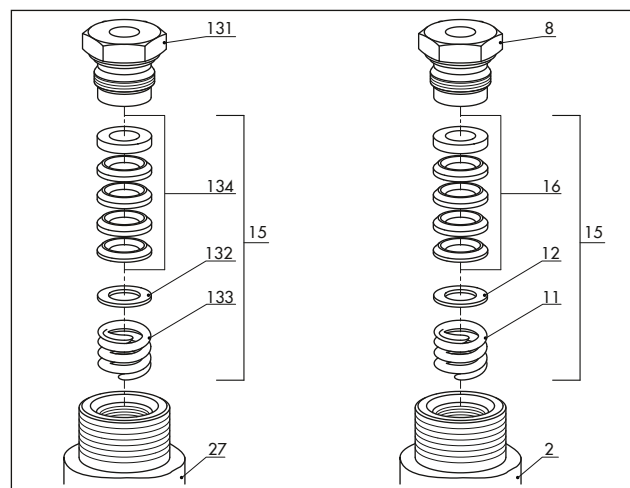

Fig. 22: Left: Packing for valves up to DN 50/NPS 2
1. Unscrew the threaded bushing (131).
2. Unscrew the body nuts (52) gradually in a criss-cross pattern and remove them.
3. Carefully lift the flange (34) and valve bonnet (27) off the valve body (20) over the plug stem (2).
6. Apply a suitable lubricant to all packing parts and the plug stem (2).
7. Carefully place the valve bonnet (27) and flange (34) over the plug stem (2) and the studs (51) onto the body (20). Make sure that the gasket (46) is properly seated in the body.
8. Carefully slide the packing parts over the plug stem into the packing chamber using a suitable tool. Observe the proper sequence (see Fig. 22).
9. Fasten down the flange (34) with the body nuts (52). Tighten the body nuts gradually in a criss-cross pattern. Observe tightening torques.
10. Apply a suitable lubricant to the thread of the threaded bushing (131). Screw in the threaded bushing and tighten it. Observe tightening torques.
1. Unscrew the threaded bushing (8).
2. Unscrew the body nuts (14) gradually in a criss-cross pattern and remove them.
3. Carefully lift the valve bonnet (2) off the valve body (1) over the plug stem (36).
6. Apply a suitable lubricant to all packing parts and the plug stem (36).
7. Carefully place the valve bonnet (2) over the plug stem (36) and the studs (13) onto the body (1). Make sure that the gasket (17) is properly seated in the body.
9. Fasten the valve bonnet (2) with body nuts (14). Tighten the body nuts gradually in a crisscross pattern. Observe tightening torques.
10. Apply a suitable lubricant to the thread of the threaded bushing (8). Screw in the threaded bushing and tighten it. Observe tightening torques.